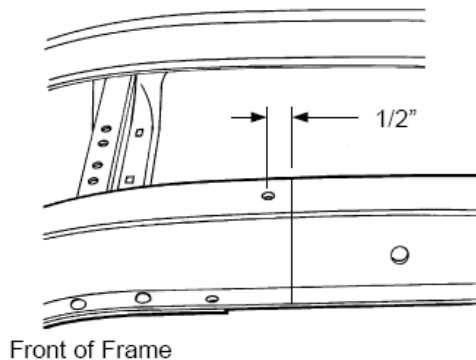

Figure 1- Axle Centerline
2. Unbolt and remove the entire old front suspension assembly from the car, including the crossmember. On the frame rails there is a hole on the top and bottom of each frame rail under the old front suspension crossmember. Using the center of these holes, make a mark on the frame 1/2" back. Now scribe those mark lines completely around the frame rails. Those scribed lines are the axle centerline for the new crossmember. See **Figure 1**.